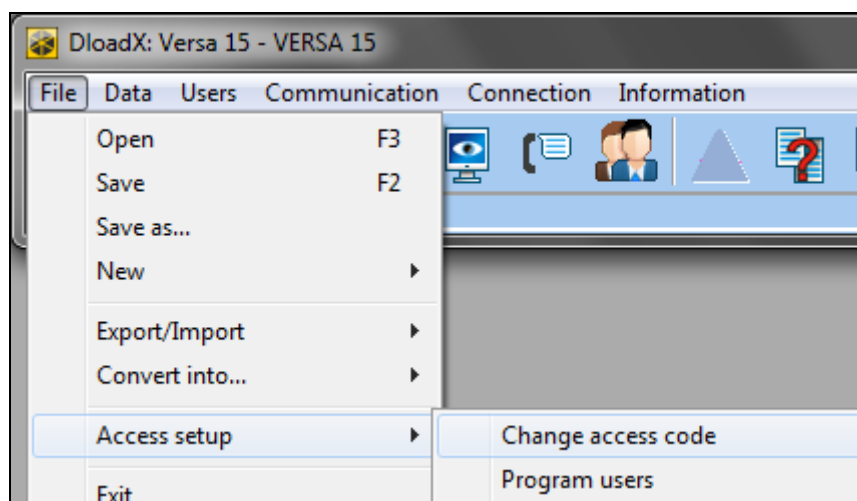

Fig. 5. Starting the procedure of changing the DLOADX program access code.
1. Click on “File” → “Access setup” → “Change access code” (Fig. 5). Dialog window with a field for entering the code will be displayed.
*You can enter additional program access codes and define the rights of users using those access codes (“File” → “Access setup” → “Program users” – see: Fig. 5).*